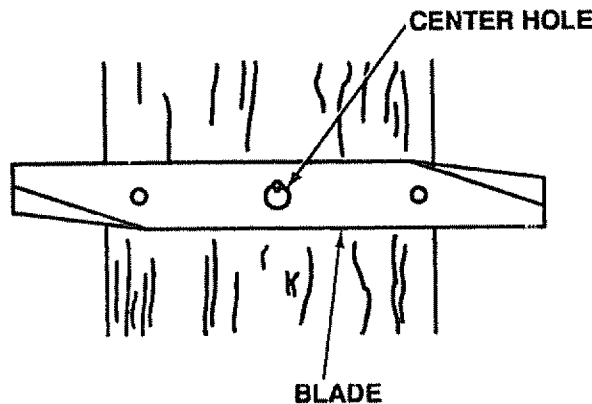

FIGURE 14
- c. To check blade balance, drive a nail into a beam or wall. Leave about one inch (2.54 cm) of the straight nail exposed. Place center hole of clean blade over the head of the nail (Fig. 14). NOTE: CENTER THE HOLE OF BLADE ON NAIL. IF BLADE IS PROPERLY BALANCED, BLADE SHOULD REMAIN IN POSITION SHOWN IN FIG. 14. IF EITHER END OF THE BLADE MOVES DOWNWARD, BLADE IS NOT BALANCED. SHARPEN THE HEAVY END UNTIL BLADE IS BALANCED.